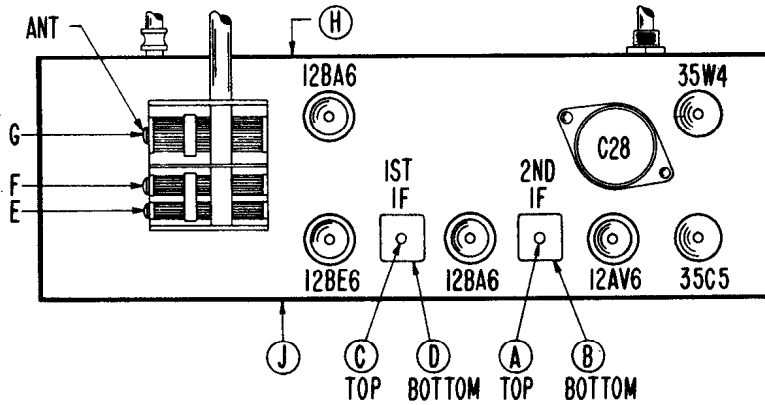

Fig. 2. Top View Alignment Locations
- Refer to Fig. 2 for location of alignment adjustments.